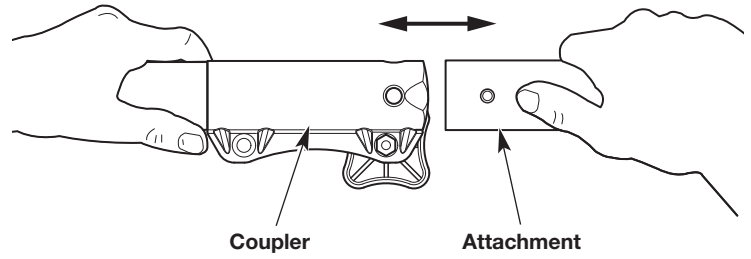

Fig. 3
4. Pull the attachment straight out of the coupler (Fig. 3).